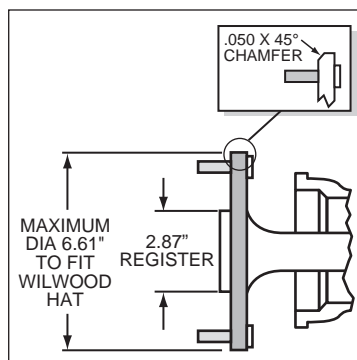

Figure 3. Axle Flange Maximum Dimension
- Axle center register diameter is 2.87", Figure 3. This kit uses Wilwood's removable center register adapters. Rotors can either be centered on the axle register, i.e. *register-centric* or centered on the wheel studs, i.e. *stud-centric*. Due to variations in wheel stud final diameters, *register-centric* centering can be a more accurate method of centering the rotor to the axle. Wilwood offers various diameter adapters for purchase in addition to the ones supplied in this kit, see Table 1.
- Maximum axle flange diameter must be no larger than 6.61" w/.050" x 45° chamfer, Figure 3.